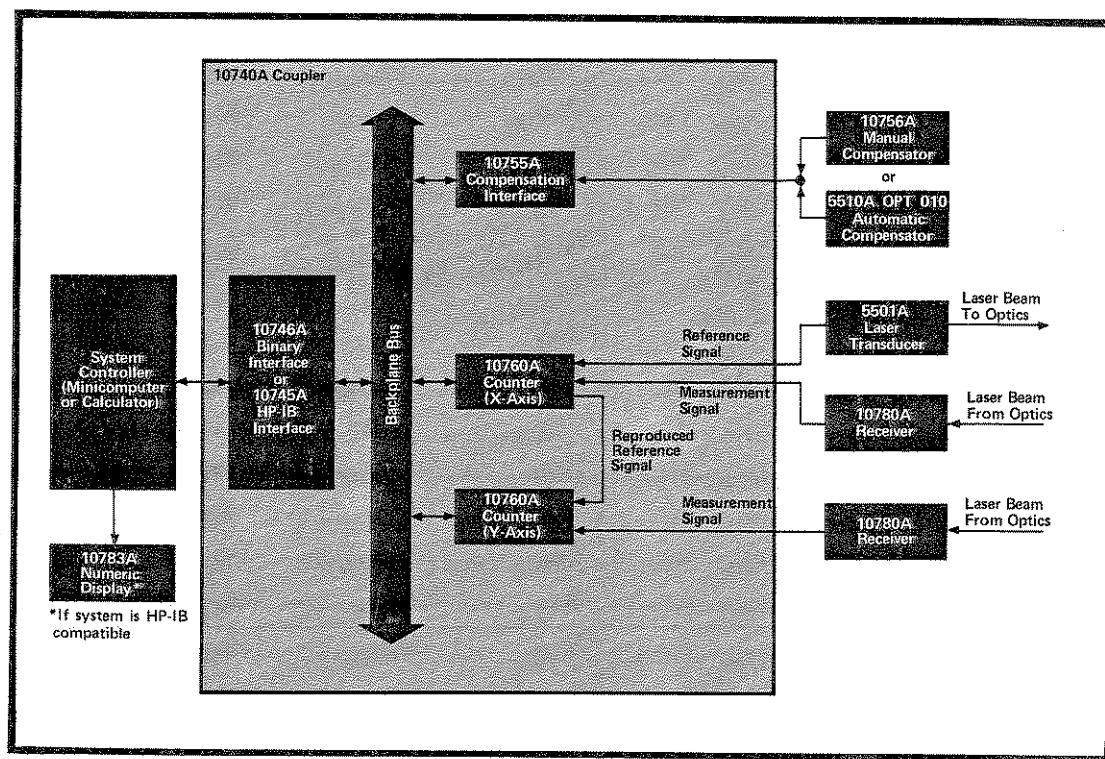

Figure 3-3. Counter-Based Computer Interface Electronics Block Diagram
3.6 COUNTER-BASED SYSTEMS. A typical counter-based system (*Figure 3-3*) contains the following electronic equipment:
Upon command from the system controller (Figure 3-3), the contents of the 10760A Counters are sampled. This can be accomplished independently or simultaneously on the X- and Y-axis.